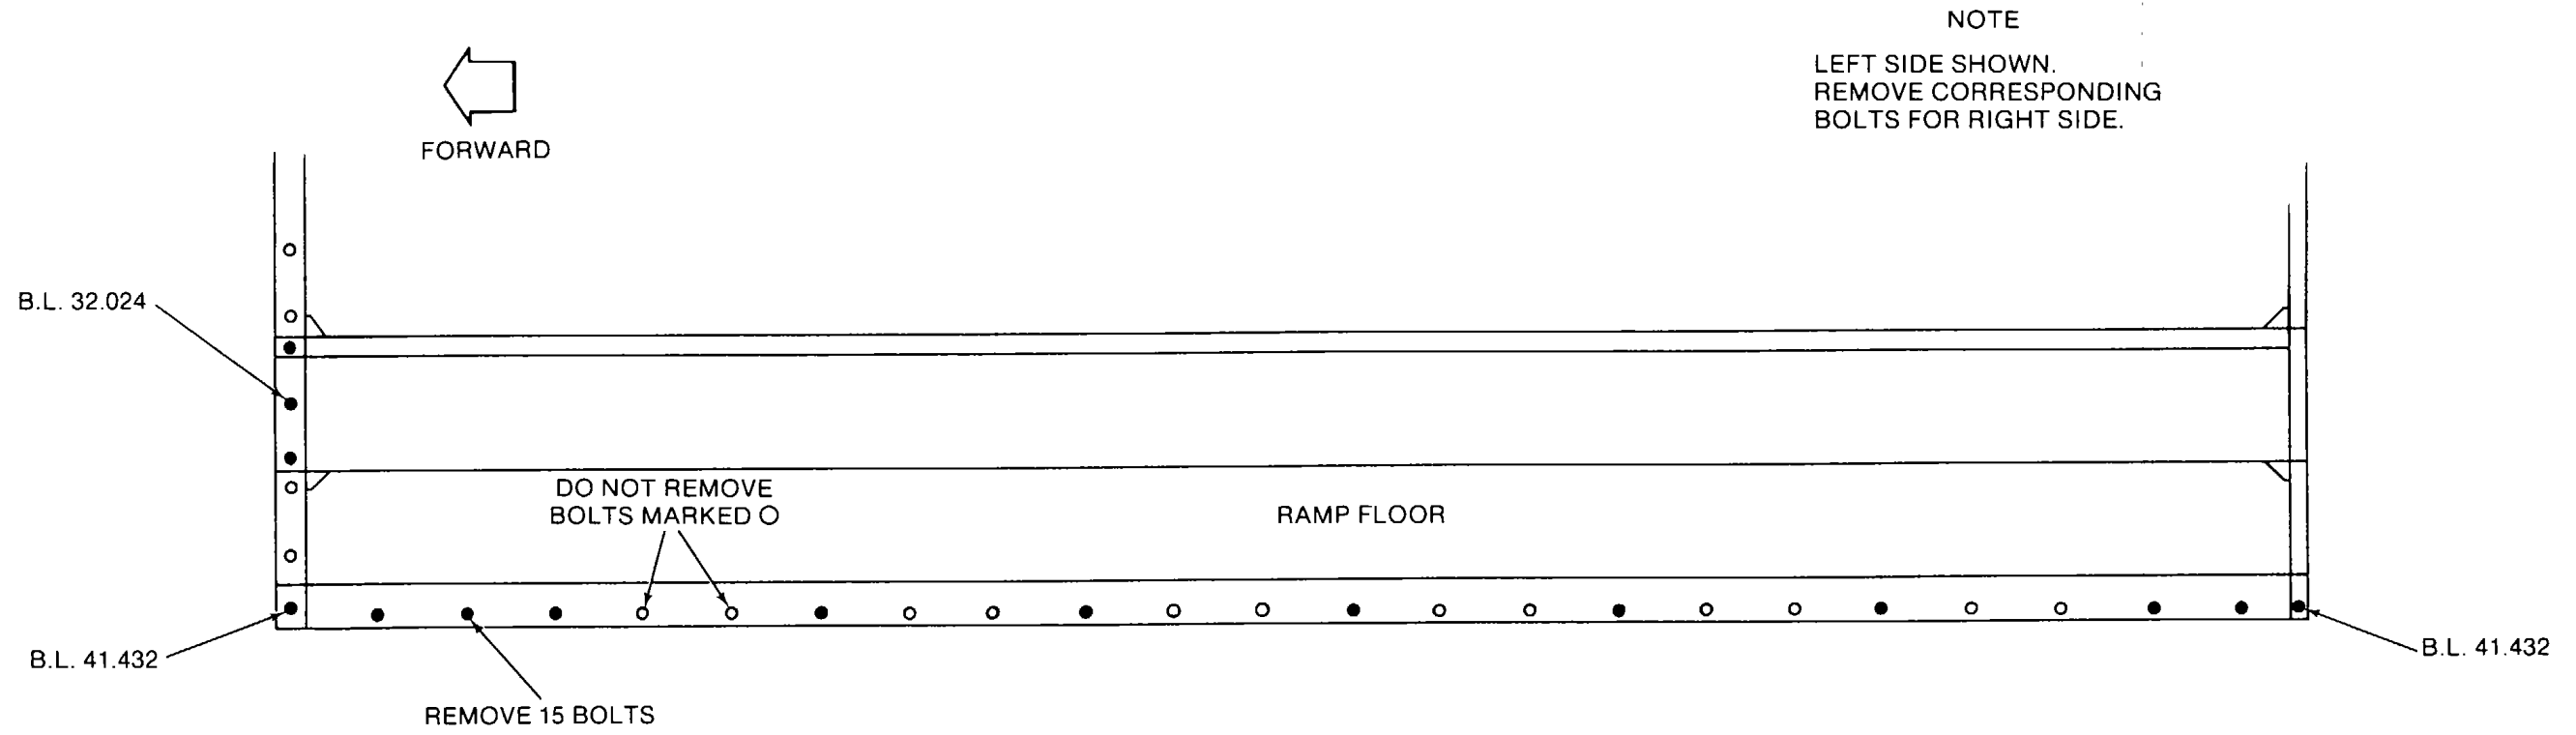

Figure 2-14. Outboard Ramp Bolt Removal Locations
(2) Refer to Figure 2-14. Remove fifteen bolts shown from the outboard left side of the helicopter ramp floor. These locations will be used to secure left-hand ramp guide rail/roller assembly (7, Figure 3-2) and transition roller assembly rest plate (25). Place the removed bolts in storage.
(3) Refer to Figure 2-14. Remove the symmetrically opposite fifteen bolts located on the right side of the helicopter ramp floor. These locations will be used to secure right-hand ramp guide rail/roller assembly (8, Figure 3-2) and transition roller assembly rest plate (25). Also place the removed bolts in storage.
(1) Position left- and right-hand ramp guide rails (12, Figure 3-6) on B.L. 41.577 (10 bolts) and B.L. 41.432 (two bolts) (Figure 2-17). Make sure that the bolt holes are aligned with the holes from which bolts were removed in Figure 2-14.
REFER TO FIGURE 2-14 FOR LOCATIONS OF BOLTS REMOVED ON THESE BOLT LINES.